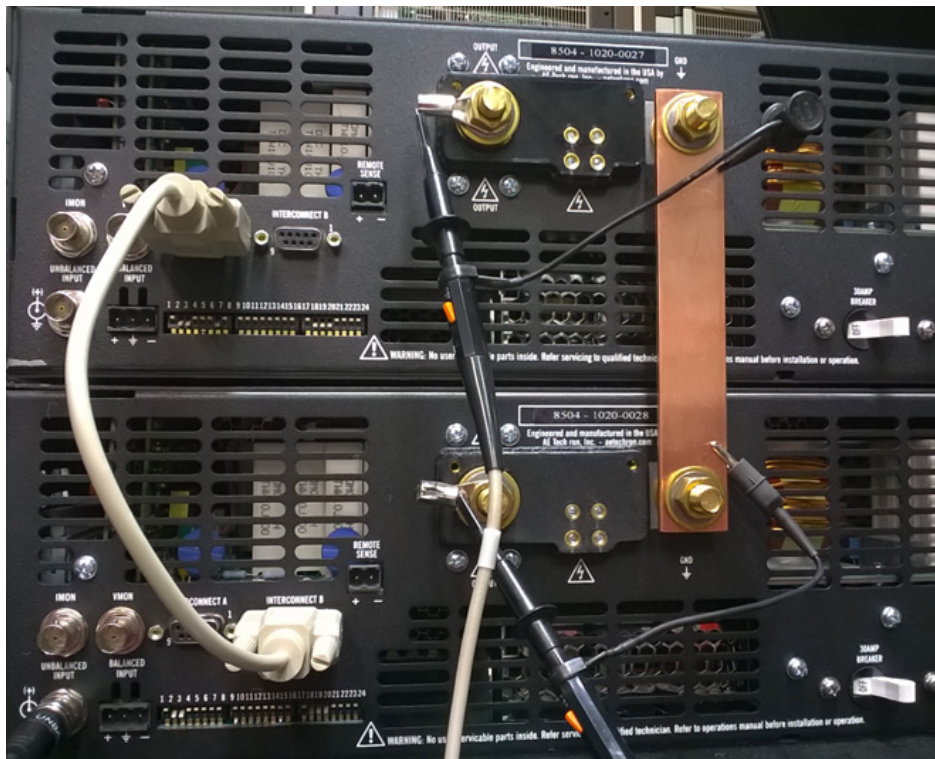

Figure 7.8 – Connecting the two amplifiers for parallel system testing
2. Place the Follower amplifier on top of the Master amplifier, and then connect the bus bar (from the 8704 Multi-amp Kit) between the GND output terminals of the Master and Follower amplifiers. See **Figure 7.8**.